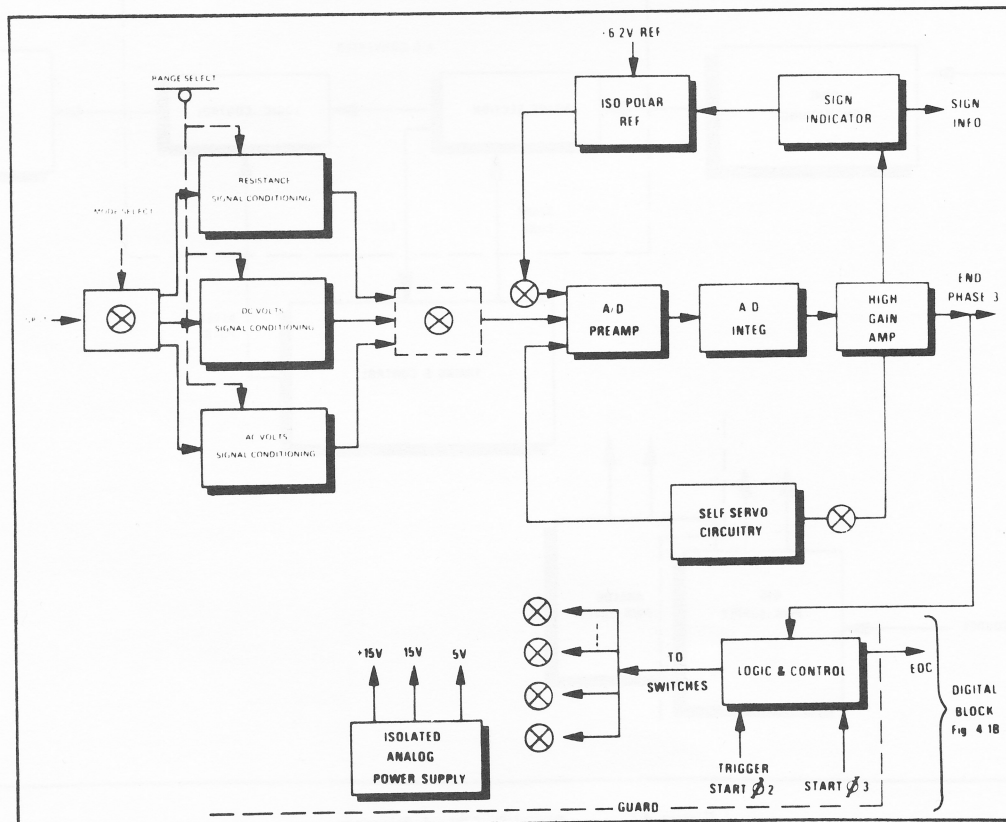

Figure 4-2 Model 3500 Analog Block Diagram
(Figure 4-2)
In the Analog Block Diagram (Figure 4-2), one of the three signal conditioning blocks (for Resistance, DC Volts, and AC Volts measurements) is connected via a switching network as the input to the A/D preamplifier. The preamplifier output is integrated and then processed by the high gain amplifier. The high gain amplifier outputs: (1) drive the sign indicator at the end of phase 2 to obtain the switching control signals that select the appropriate polarity of the ISOPOLARTM reference voltage to be applied (via the switching network) to the A/D preamplifier in phase 3 and at the same time drive the Display to indicate sign, and (2) indicate end of phase 3. The high gain amplifier in phase 1 also drives the self zeroing circuitry to develop the offset signal to be applied during the phases 2 and 3 as an input to the A/D preamplifier. Logic and Control circuitry in the Analog Block Diagram receive transformer-coupled "trigger" and "start-phase 3" pulses
4.3 SIGNAL CONDITIONING BLOCK (Figure 4-2)
4.4 TRI-PHASIC A/D CONVERTER BLOCK DIAGRAM (Figure 4-2)